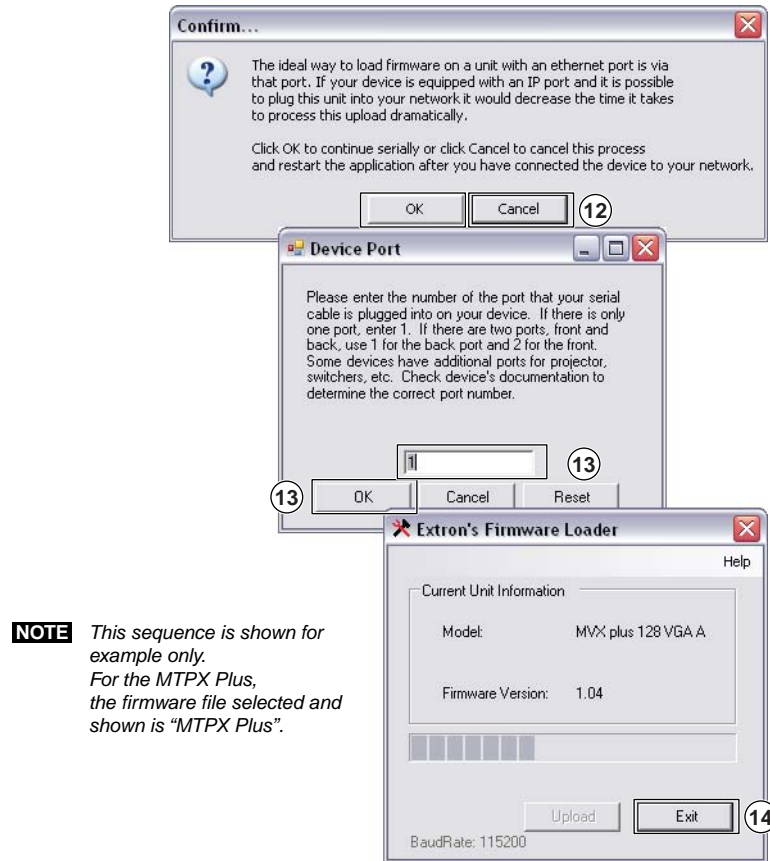

Figure 5-13 — Confirm window
12. Click **Upload**. The File Loader advises you that using the Ethernet (LAN) port is preferred over using either serial port (figure 5-13).